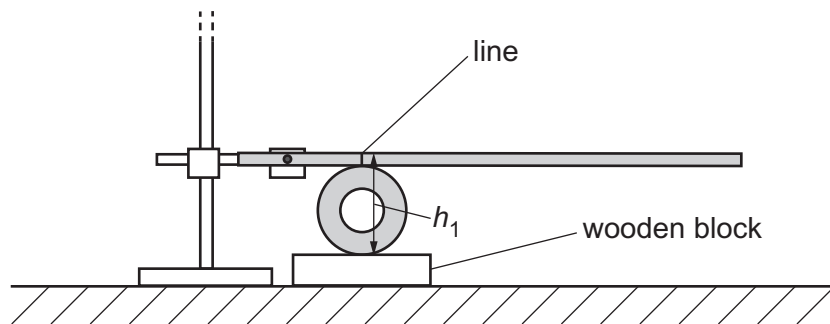

Fig. 2.3
- (b) • Position the ring under the line on the rod and centrally on the wooden block, as shown in Fig. 2.3.
- The vertical distance, next to the ring, of the top of the rod above the block is  $h_1$ , as shown in Fig. 2.3.